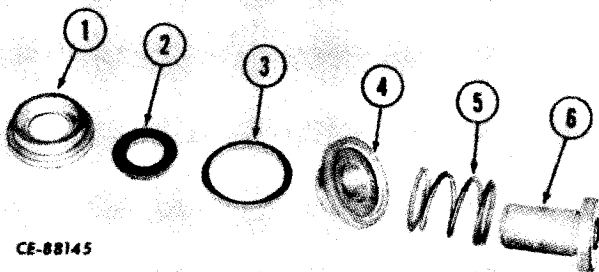

Figure 13-40
Install vee packing (2, Fig. 13-40) in groove of shield retainer (1). Install a new seal (3) and guide (4) on retainer. Insert inlet valve (6) into spring (5), guide and retainer.